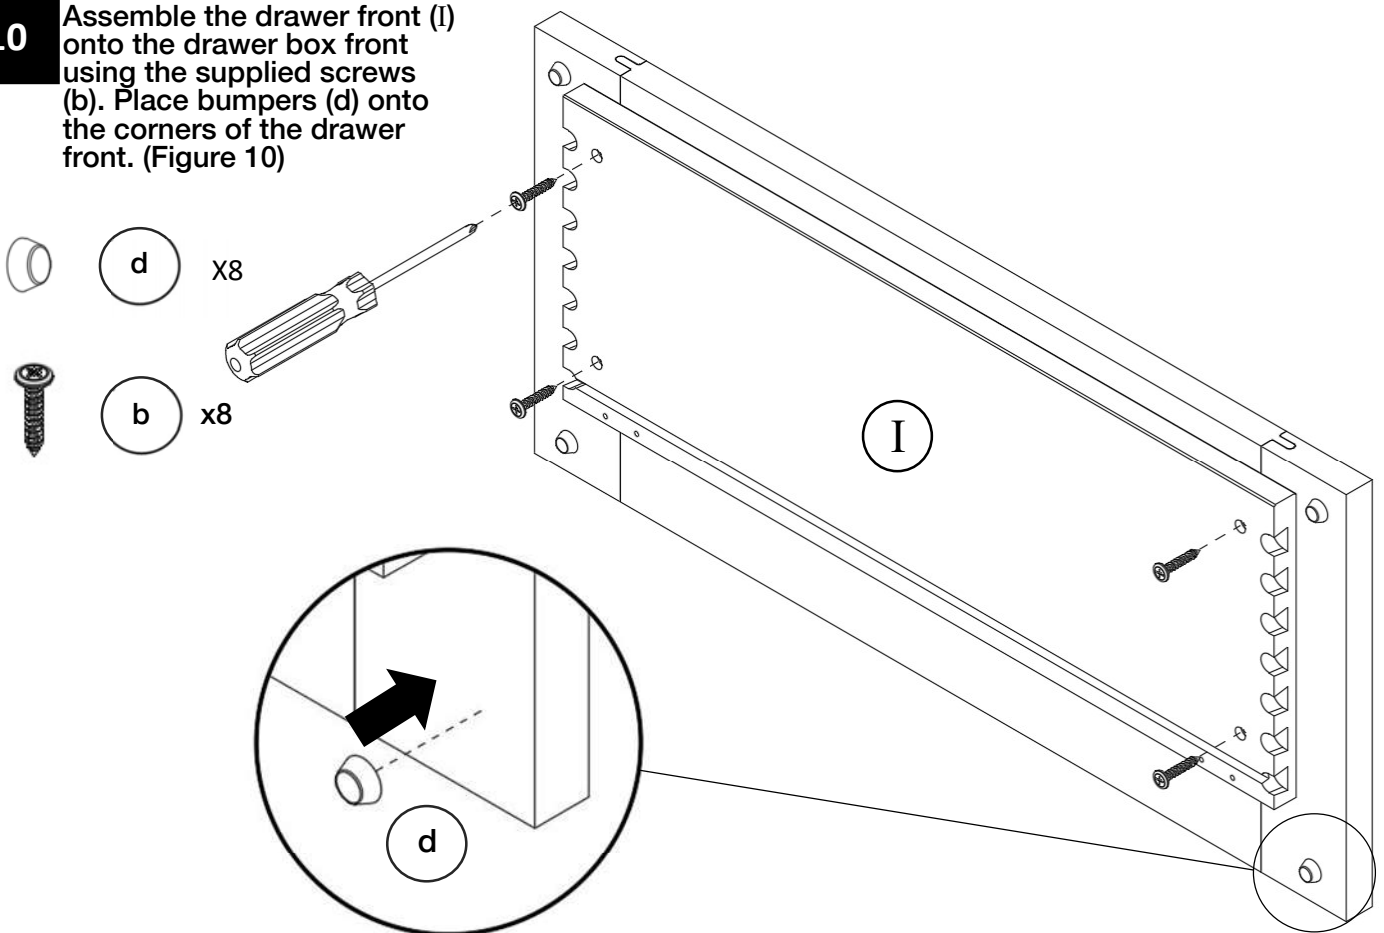

Figure 10
Assemble the drawer front (I) onto the drawer box front using the supplied screws (b). Place bumpers (d) onto the corners of the drawer front. (Figure 10)